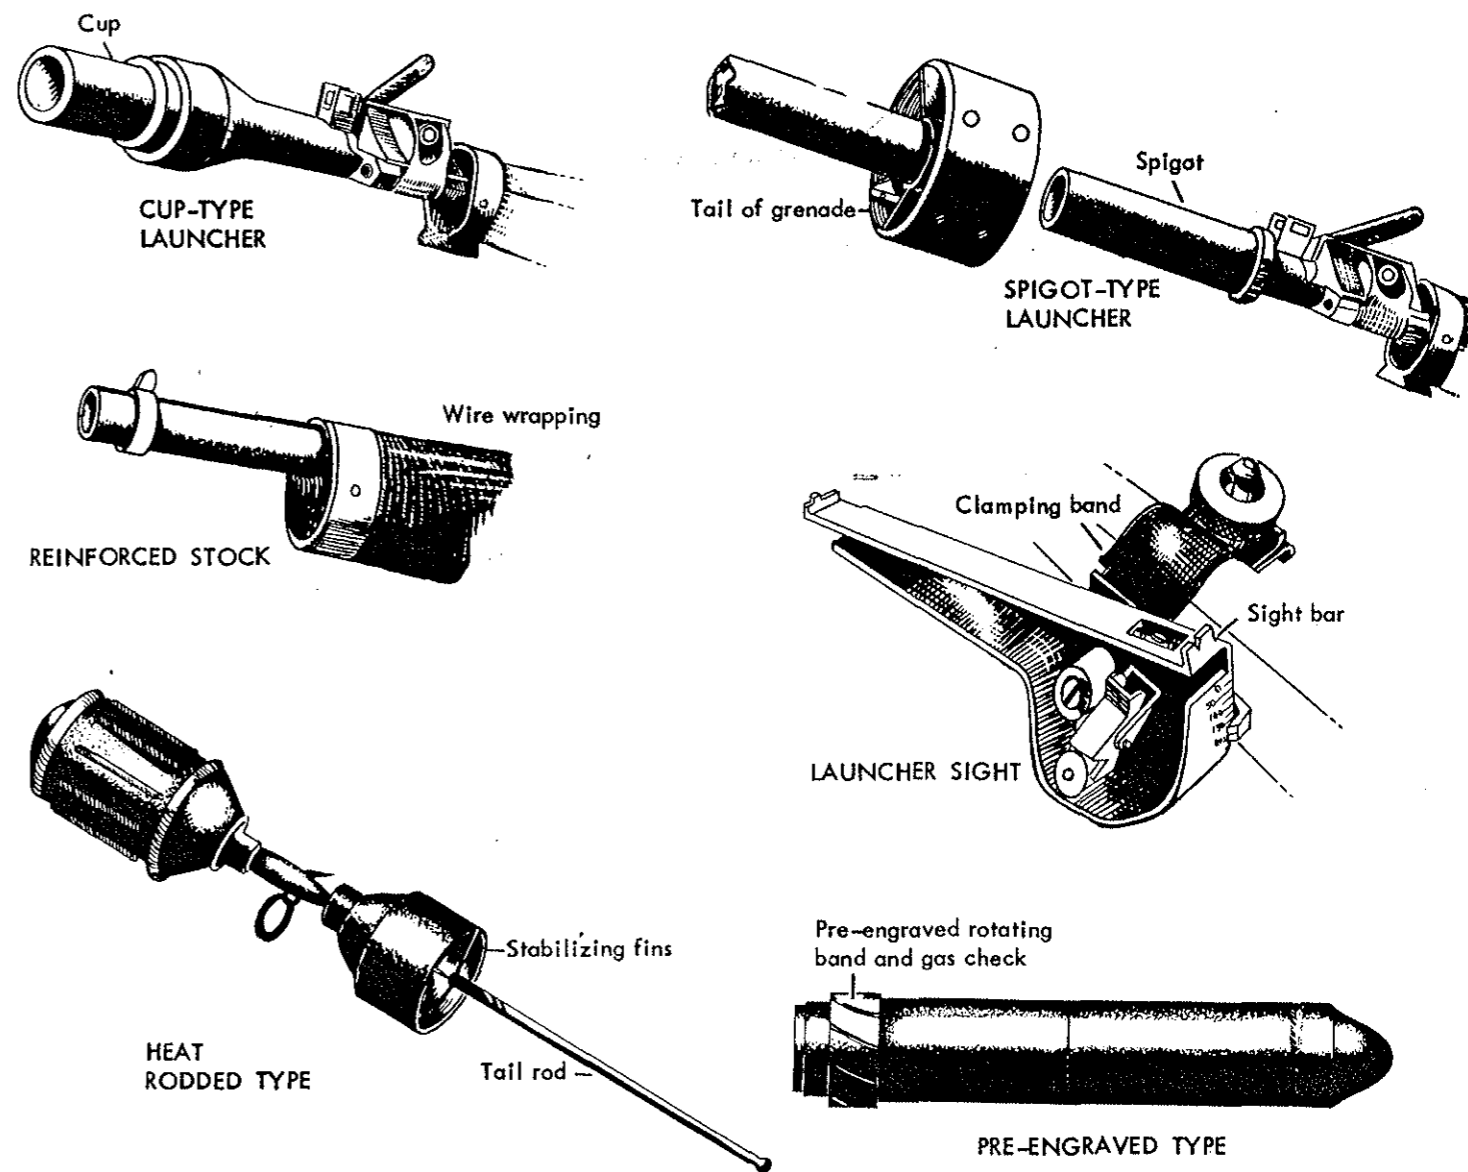

Figure 31.
- a. Is the rifle modified in any way for the purpose e.g., wire-winding to reinforce stock and handguard (fig. 31)?
- b. Method of discharge. Two conventional methods are used, a cut-type launcher and a spigot-type launcher (fig. 31). In either case the launcher is fitted to the muzzle of a service rifle which is loaded with a bullet less or wooden bullet cartridge containing a special propellant. Give a brief description of the launching
d. Method of aiming. Is a special sight employed (fig. 31)?
loading (fig. 31)?